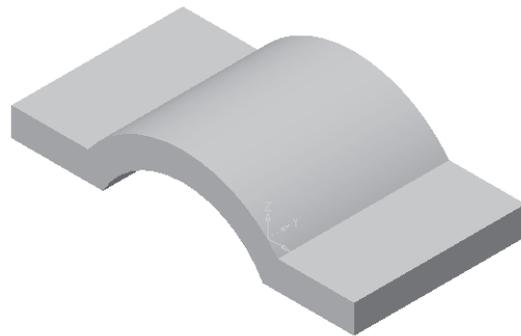

Figure 3-79 Base feature of the solid model
7. Choose the **Shaded** button and the **Views** button from the **Viewing** toolbar; the **Display View** dialog box is displayed. Select the **Isometric View** option and choose **OK**. The model is displayed, as shown in Figure 3-79.